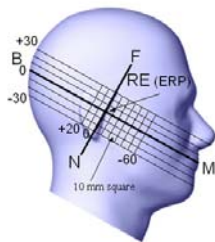

Figure 7.2 Side view w/ relevant markings
5. While maintaining the vertical centerline in the reference plane, keeping point A on the line passing through RE and LE and maintaining the device contact with the ear, rotate the device about the line NF until any point on the device is in contact with a phantom point below the ear (cheek). See Figure 7.2.